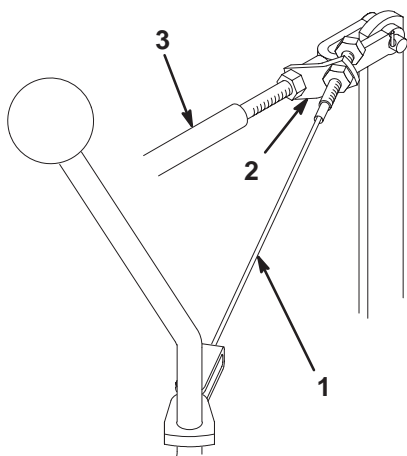

Figure 51
1. Loosen the front jam nut securing the cable assembly to the mow/lift control rod bracket (Fig. 51).
3. While holding the mow/lift control rod in the rear position, tighten the rear locknut to remove almost all of the slack from the cable assembly (Fig. 51). Do not over-tension the cable.